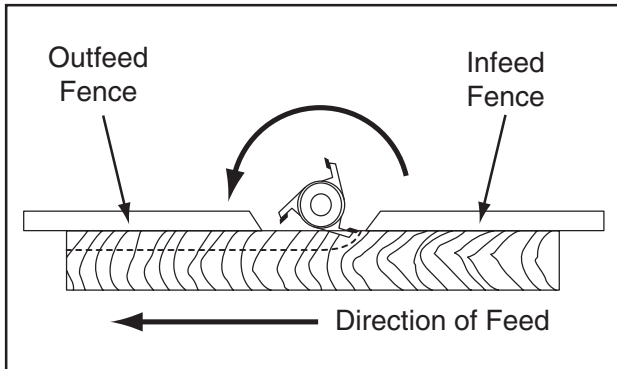

Figure 30. Fence boards adjusted evenly for partial face removal.
5. Start the spindle rotating counterclockwise, then feed a test piece past the cutter to verify the cut, as illustrated in **Figure 30**.